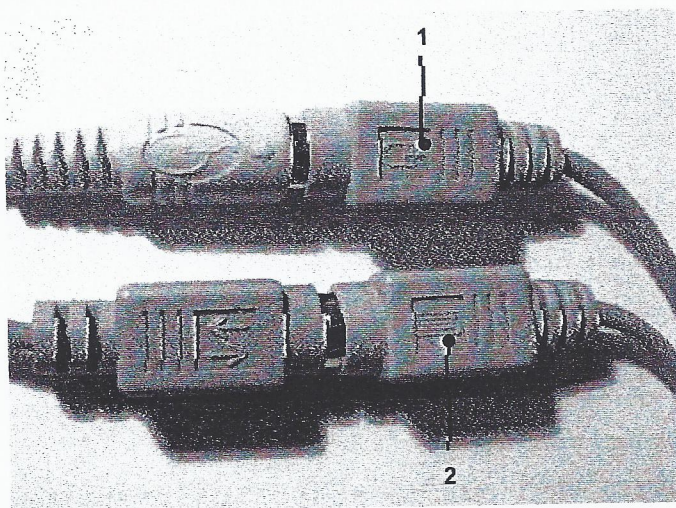

Figure 1. Connection of the mouse (1) and of an external keyboard (2).
- Connect the mouse cable to the proper connector of the adapter, as illustrated in Figure 1.
It is possible to connect an external keyboard and/or mouse of PS/2 type to the Cliniporator Console. For this purpose connect the keyboard to the mouse adapter as illustrated in Figure 1.